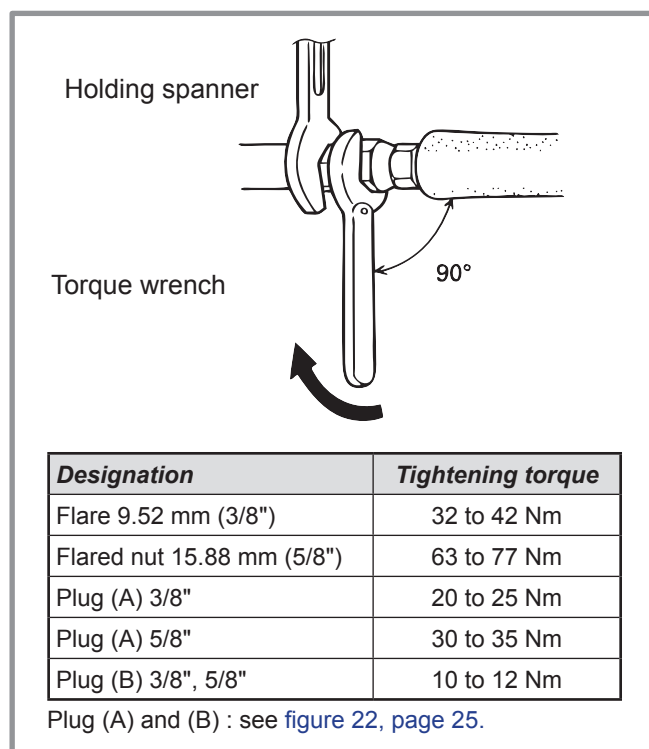

figure 20 - Tightening torques
- Comply with the indicated tightening torques (figure 20).
- Remove the access plugs (A) from the valve controls.
- Refit the 2 original caps (be sure they are clean) and tighten them to the recommended tightening torque indicated in the table figure 20, page 23. A seal is achieved in the caps only with metal to metal.